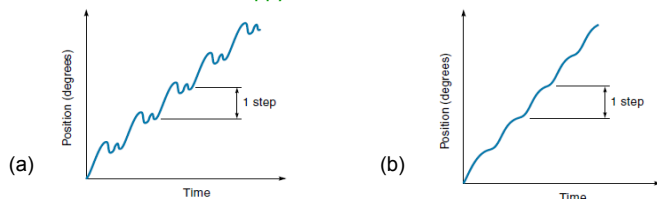

Figure 3.9 Position versus time for (a) single step mode and (b) slew mode
- Figure 3.9(a) shows a graph of position versus time for single step operation.